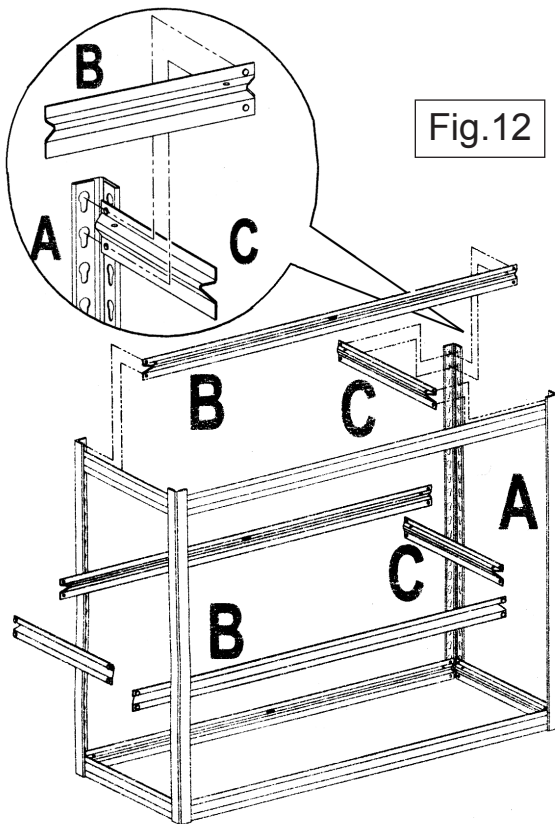

Fig.12
4.10 HALF HEIGHT STORAGE STATION. See Fig.12. Follow steps 4.2 and 4.3 to create a bottom frame with four 'A' posts attached. Using two long 'Z' beams (B) and two short 'Z' beams (C) build a shelf support level at the top of the angle posts (A). Tap the beams at either end, close to each angle post with a rubber mallet to ensure that the rivets are seated at the bottom of the keyhole slots. Build another shelf support level at the desired height within the frame using additional long and short 'Z' beams and ensure that the rivets are seated at the bottom of the keyhole slots.